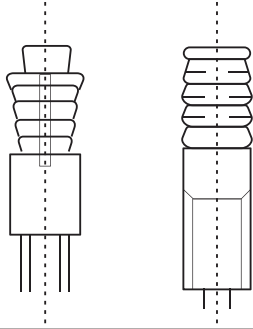

Figure 3.2
- Determine the location on the ceiling of the room or building roof for mounting, and drill four  $\Phi 12\text{mm} \times 50\text{-}55\text{ mm}$  holes. Then embed and set up the expansion hook anchors (purchased accessory 4) in these holes. See Figure 3.2.